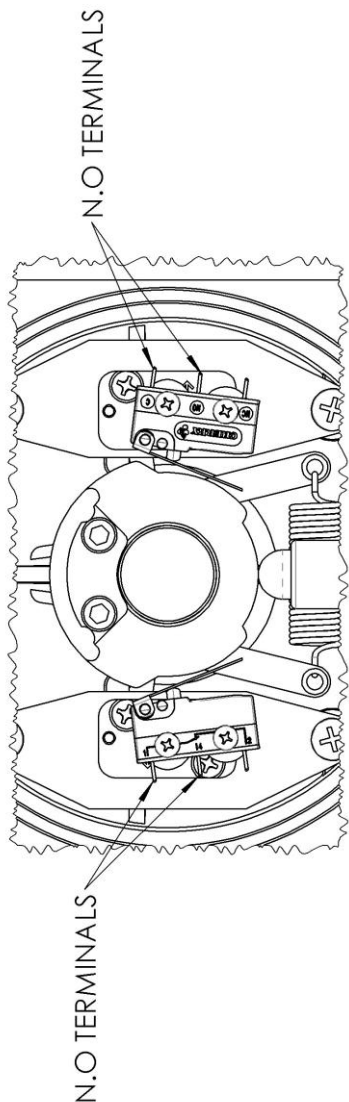

Figure 22: Diagram showing the terminals on each microswitch that make a N.O circuit.
- a. The actuation lever of the microswitches ② are clear of any obstructions through their range of motion.
- b. The microswitch ② lever is depressed enough to actuate the switch contacts when the jog lever is pushed. This can be done by checking for continuity across the Normally Open (N.O) terminal 4 and the Common(C) terminal 1. See Figure 22 for clarity on terminals being checked. When the switch is depressed, terminals 1 and 4 should have continuity. Make sure: